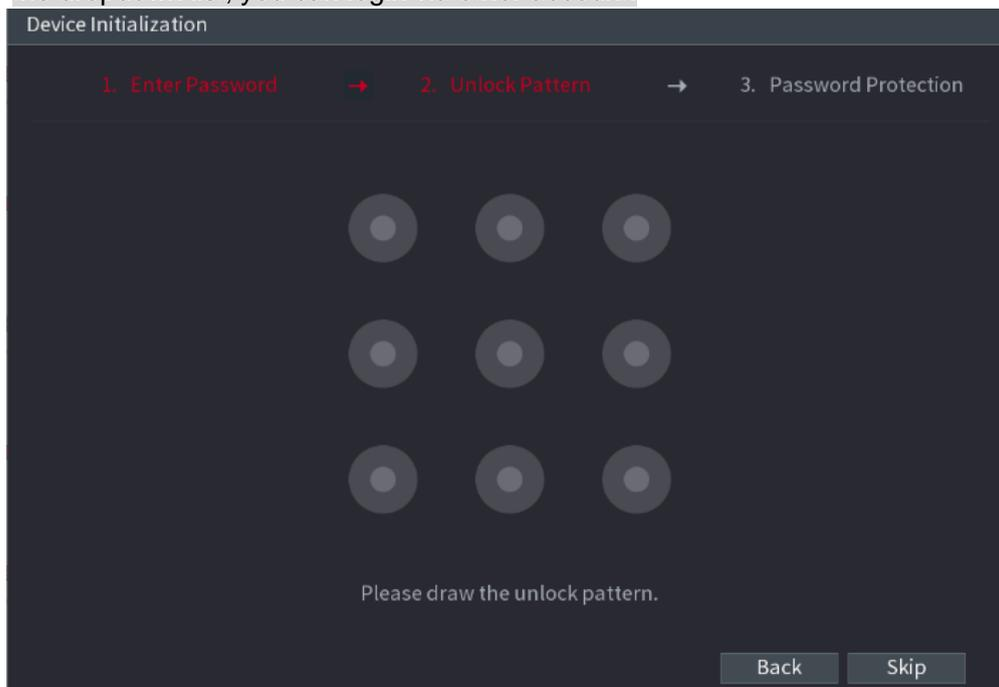
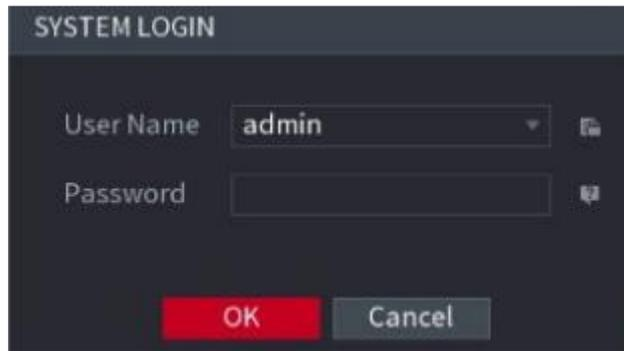

Figure 7
Figure 8
Step 1 Go to the device login interface. See Figure 7 or Figure 8.
- ★ If you have set unlock pattern, device displays unlock pattern login interface. See Figure 7 **Error! Reference source not found.** Click "Forgot unlock pattern", device goes to Figure 8.
Click Switch user button in Figure 7 or click the user name in Figure 8 and then select a user from the dropdown list, you can login via other account.